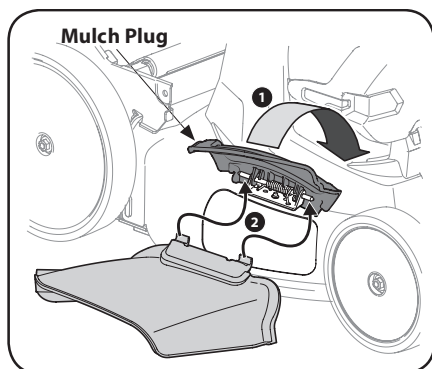

Figure 2-8
1. On the right side of the mower, lift the mulch plug. See Figure 2-8.